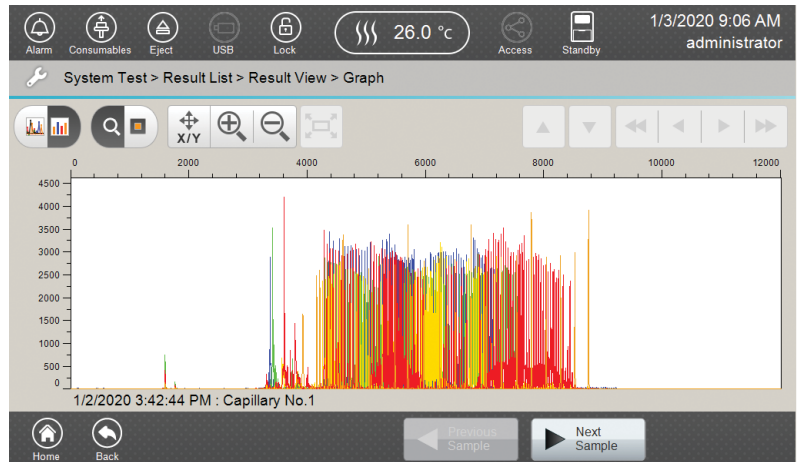

Figure 214. Fragment System Test 'Graph' screen of selected sample.
8. Select **View** in the footer to view the data for that sample in the 'Graph' screen (Figure 214). See 'Results' Tab in Section 5.7, Monitoring a Run, for definitions of the navigation icons on this screen and how to use them.